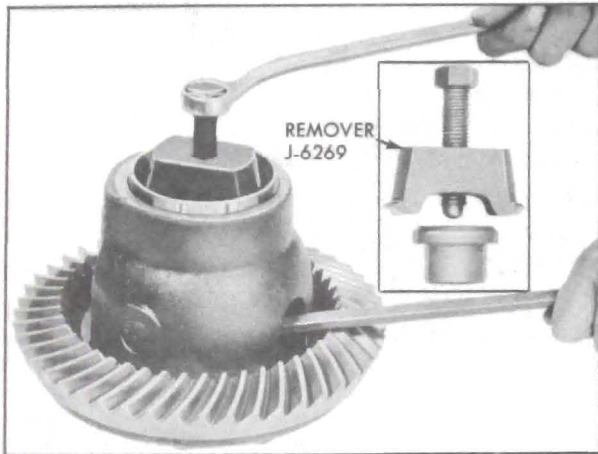

Figure 6-15—Removing Differential Bearing Outer Race
9. If a differential bearing is to be replaced, pull bearing outer race from case using Remover J-6269. See figure 6-15.